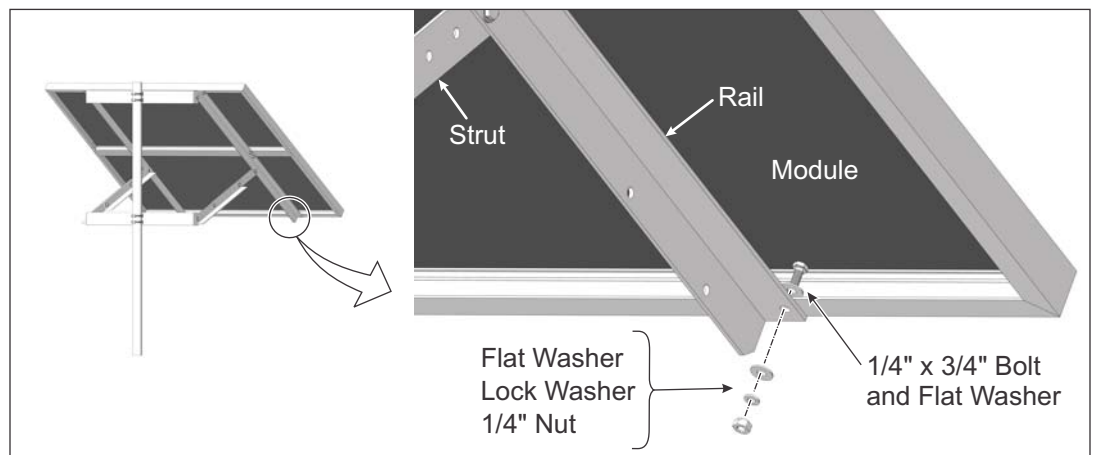

Figure 7-1: Attaching Module to Rail
- Place the Module on the Module Rails. While one person holds the Module in place, align the mounting holes and secure with four 1/4" x 3/4" bolts and hardware. **Torque to 6-8 ft.-lbs.** (See Figure 7-1)